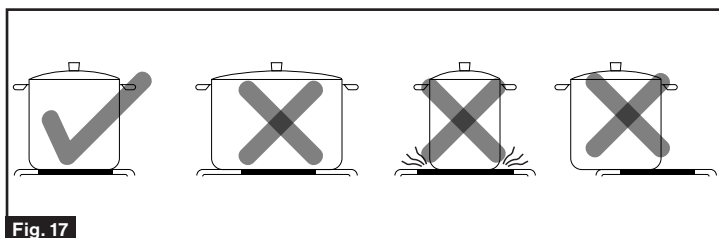

Fig. 17
- Use pans whose diameter is as large as the graphic of the zone selected. A slightly larger pan covers the entire element and prevents spillovers from contacting the heat surface and burning in. If you use smaller pot efficiency could be less than expected. Always center your pan on the cooking zone. (Fig. 17)